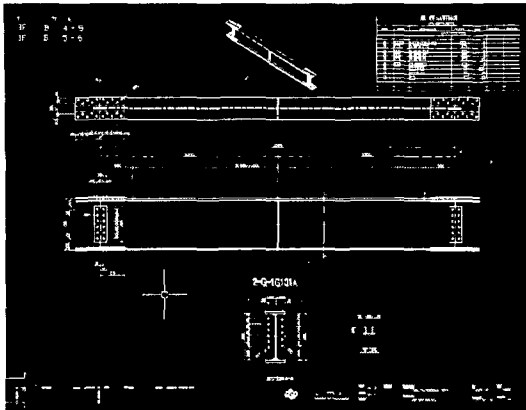

Fig. 9 Mono drawing
- Automatic generation of all drawings (overview, groundplan, box-view, assembly and mono drawings) (Fig. 9)